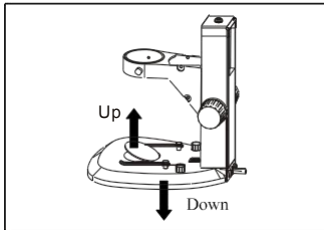

Fig.1
- (1) If the specimen is white or transparent, make the black one as background, to enhance the contrast.
- (2) Take off or change the work board, move the work board (Fig.1) make one side down, then the other side will be up.(Fig. 1)